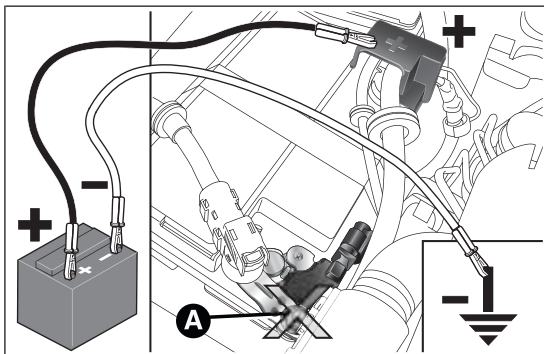

fig. 114
- connect the positive terminals (sign + near the terminal) of the two batteries with a jump lead fig. 114;